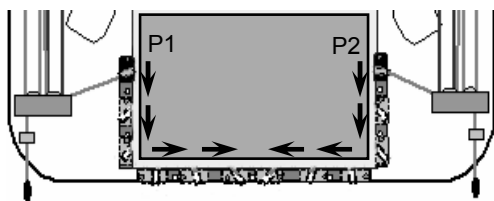
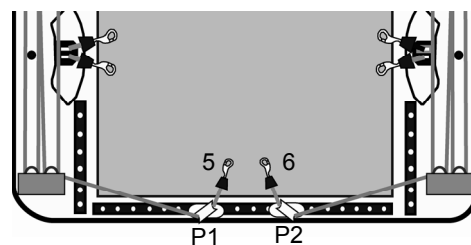

Figure 6
Figure 7
The following section describes the Basic hip flexor attachment configuration for all V6+ units (Compact and Elite models). Referencing Figure 6, the VertiMax V6+ units have guide rails mounted around the back perimeter of the exercise mat which allow the P1 and P2 pulley assemblies to be repositioned around the mat as indicated by the arrows. First position P1 and P2 pulley assemblies as shown in Figure 7 and then follow steps 1-9 on the following page to properly configure the Option 1 hip flexor training configuration.
1. Place pulley assemblies P1 and P2 as shown on the rear adjustment rail (also reference Figure 7).